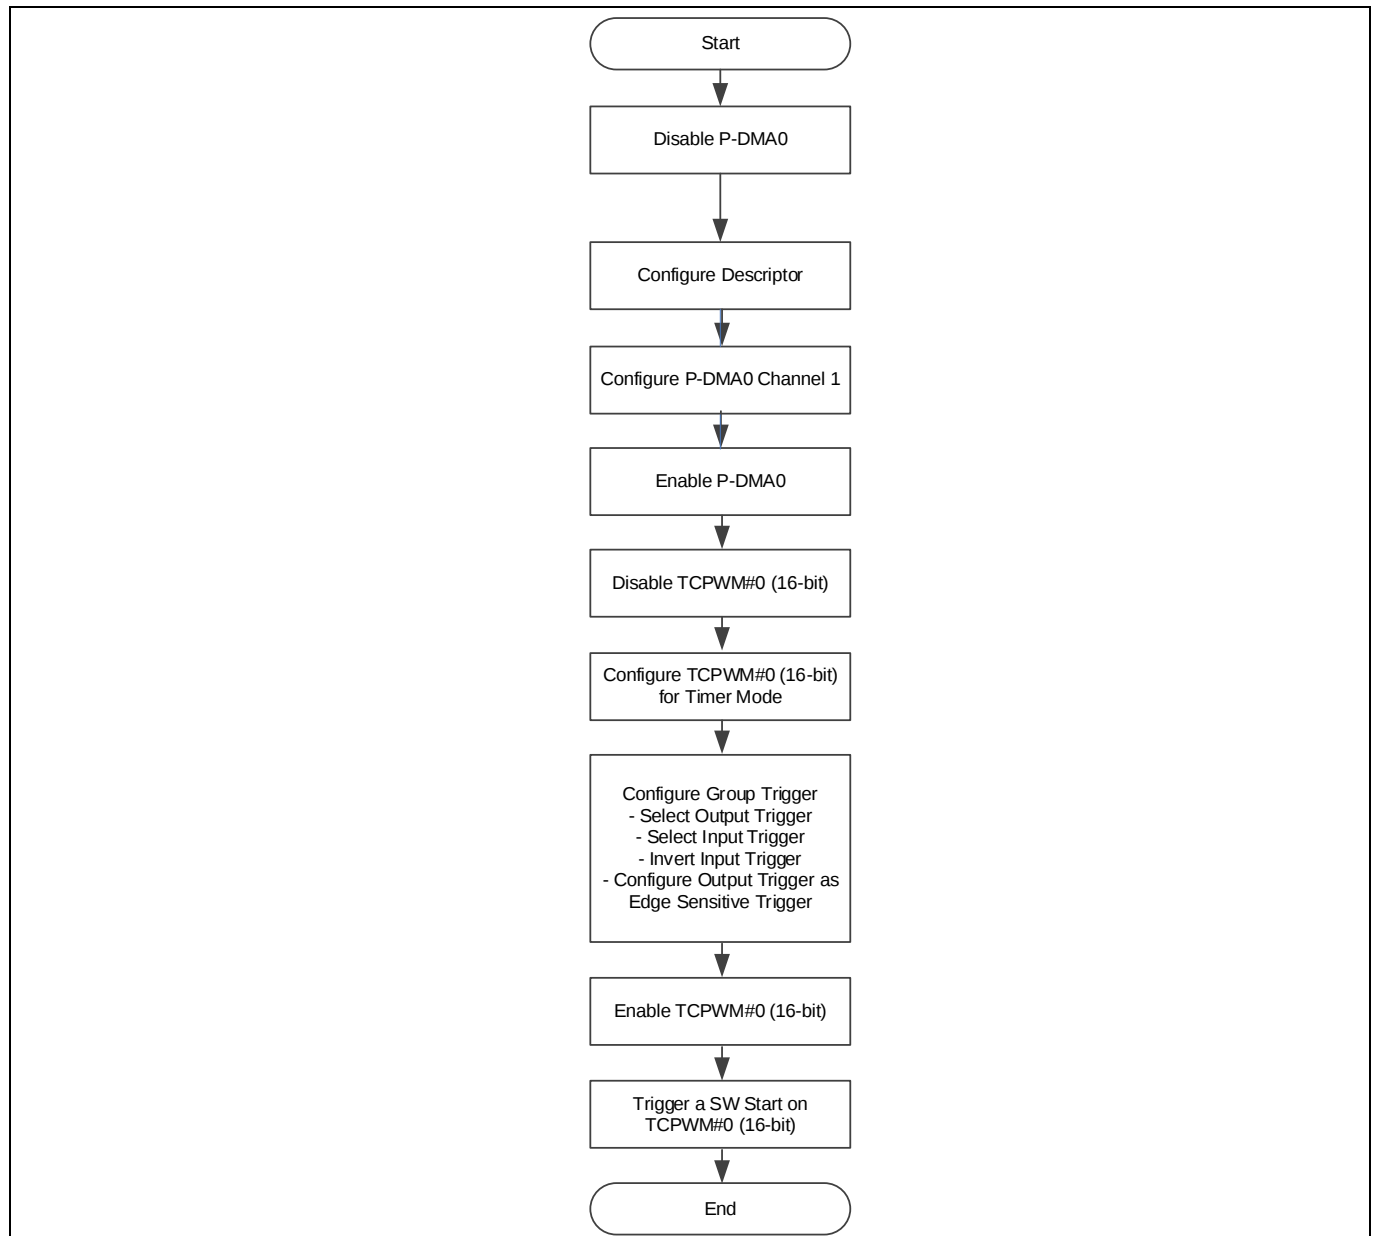

Figure 11 Example of setting for group trigger in XMC7200
Triggers must be set to implement this application. Figure 11 describes the procedure for setting the trigger. Figure 11 also provides the setting for the TCPWM counter and P-DMA (DW)0 channel.
Code Listing 1 shows the example program for Figure 11. The code snippets in this application note are part of the Peripheral Driver Library (PDL). Contact Technical support for the PDL.